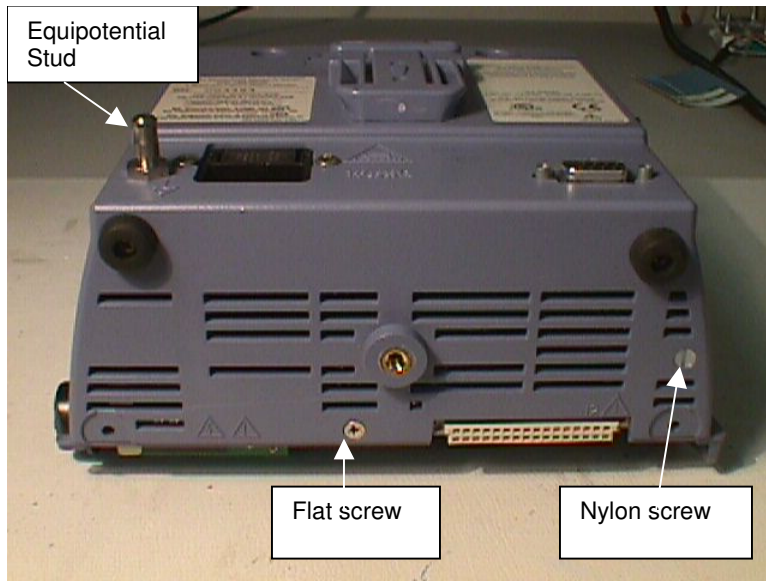

Figure 7-7 Place rear case assembly face down on a scratch free work surface
1. With rear case assembly dismounted from bezel (see Section 7.2.1), place rear case assembly face down on a scratch free work surface with bottom of case facing you. (See Figure 7-7).
Refer to Figures 7-7, 7-8 and 7-21.